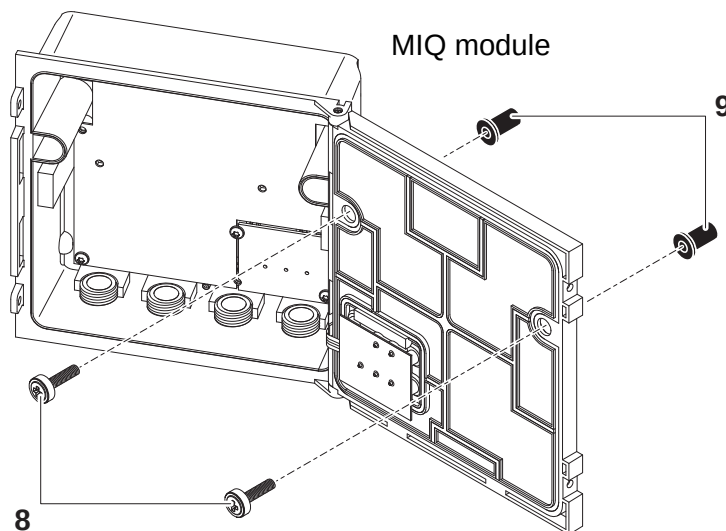

Fig. 3-9 Premounting the ISO blind nuts (variant 2)
- 6 Insert the cheese-head screws (pos. 8 in Fig. 3-9) with the plastic washers in the drilled mounting holes in the module lid and loosely screw in the ISO blind nuts (pos. 9).
7	Attach the prepared MIQ module to the back of the DIQ/S 182-XT-4-PR. At the same time, ensure that the two clips on the DIQ/S 182-XT-4-PR click into place in the lid of the MIQ module. Subsequently, tighten the two screws (pos. 8 in Fig. 3-9).